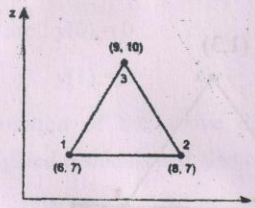

Figure 5
- (b) Calculate the element stiffness matrix for the axisymmetric triangular element shown in Fig 5. The element experiences a $15\text{ }^{\circ}\text{C}$ increase in temperature. The coordinates are in mm. Take $\alpha = 10 \times 10^{-6}/^{\circ}\text{C}$, $E = 2 \times 10^5 \text{ N/mm}^2$, $\nu = 0.25$. (16)